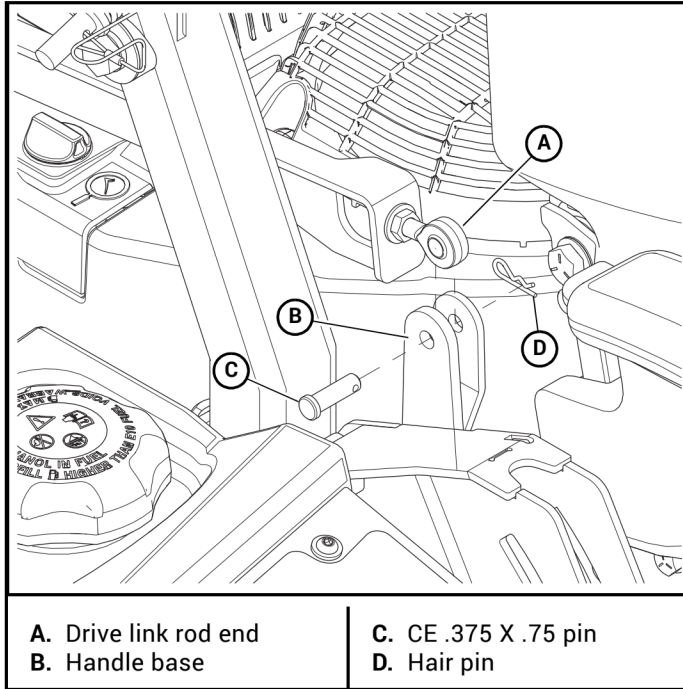
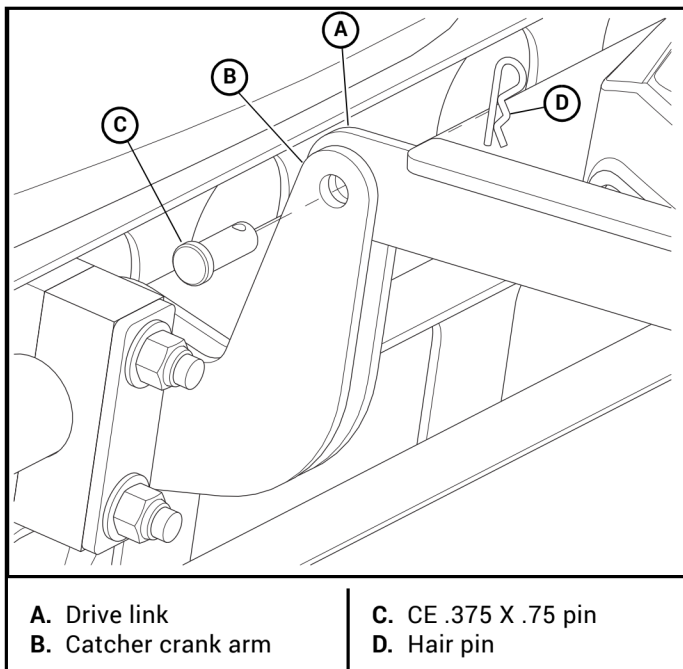

Figure 3-15
Figure 3-16
20. Attach the rod end of the drive link to the handle assembly and the drive link to the catcher crank as shown. Figure 3-15 & Figure 3-16
21. Place the catcher handle in the latched down position. Figure 3-16